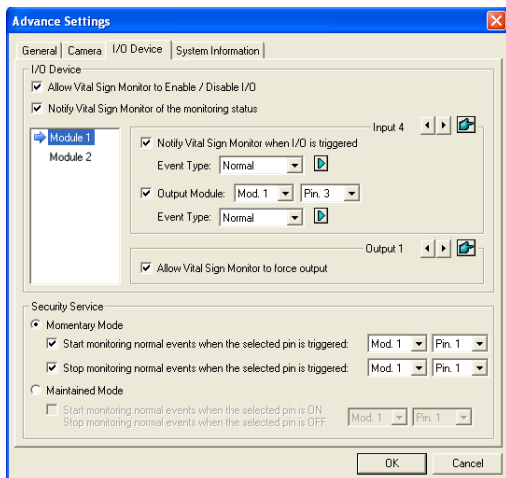

Figure 3-7
For this example of Figure 3-7, when the I/O Device (Module 1, Input 4) is triggered, the Output (Module 1, Pin 3) will be activated simultaneously.
- **Force Output:** To enable this tab, highlight one output from the tree list, and click this tab to force the output at the subscriber site to be triggered. For this function to work, the subscriber must grant the privilege first. See the **Allow Vital Sign Monitor to Force Output** option in Figure 3-7.
- **Enable/Disable I/O:** Allows the VSM to arm or disarm any I/O devices at the subscriber site without interrupting the monitoring. For this function to work, the subscriber must grant the privilege first. See the **Allow Vital Sign Monitor to Enable / Disable I/O** option in Figure 3-7.